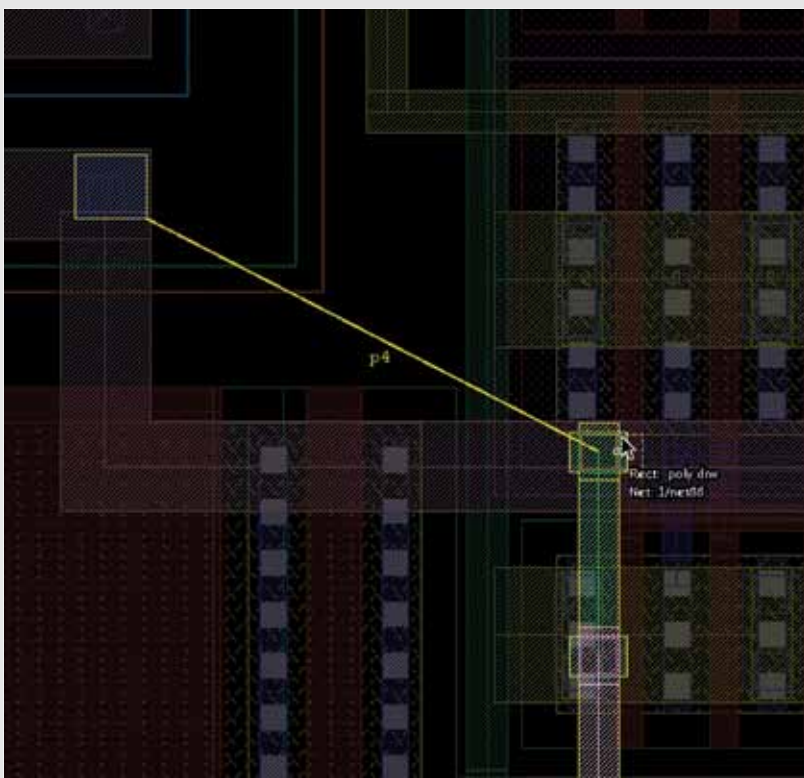

Figure 2: FTC working in conjunction with Shadow Mode
Both FTC and P2P work with Custom Designer's Shadow Mode, which clearly highlights the net being routed and helps the designer navigate across a dense layout (see Figure 2). For information about Shadow Mode please see the Custom Designer Layout Editor (LE) data sheet.
Custom Designer's Import Layout feature aids designers facing the challenge of developing new design derivatives from existing SDL IP that requires targeting new PDKs and new schematics with the same circuit topology. As shown in Figure 2, the Import Layout command regenerates the design (placement and wiring) from the existing design while maintaining the device/P-cell placement to target a new PDK.